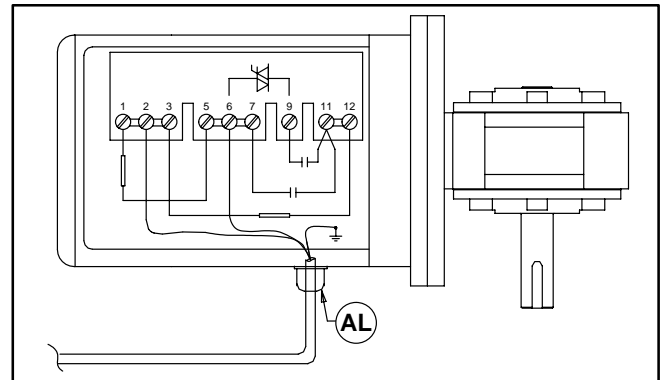

Figure 21
- Record wire colors on terminals 2, 6 and ground (\perp) (Figure 21). Loosen terminals 2, 6 and ground and remove wires.
- Loosen cord grip (AL of Figure 21) and remove cord.